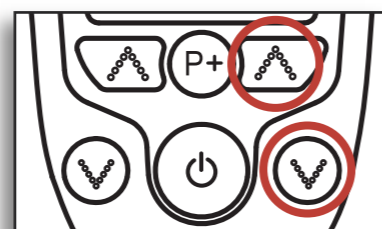

Figure 8
5. Gently increase the intensity setting by pushing the button “^”. Or decrease intensity setting by pushing the button “v”. (See Figure 8).